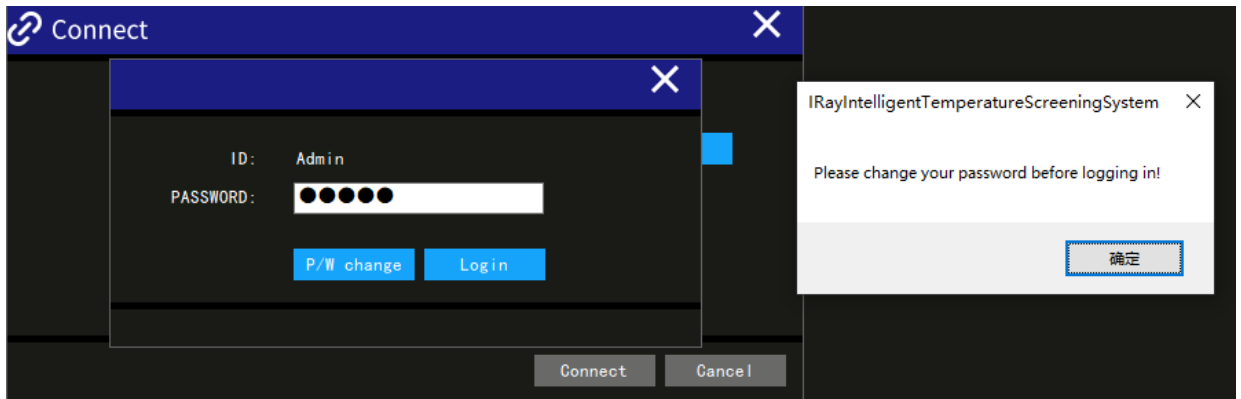

Figure 1.4 System software login interface
3. After selecting the IP of the device to be connected, click the “Connect” button and the login page will pop up as shown in Figure 1.4. After entering the correct password (password: **admini**), click login to image and conduct temperature screening analysis. The user must change the password when conducting the first login.